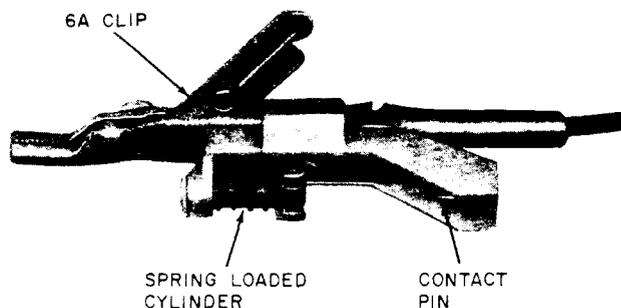

Fig. 18—B Test Clip, L2
**2.27 B Test Clip, L2:** The B test clip, L2 (Fig. 18) consists of a spring-loaded cylinder and contact pin encased in a molded plastic body, 2-inches long, 1/2-inch wide, and 3/4-inch high. This device is used to connect test set clips to B wire connectors without damaging the connector or the connector insulation. These clips are available from: